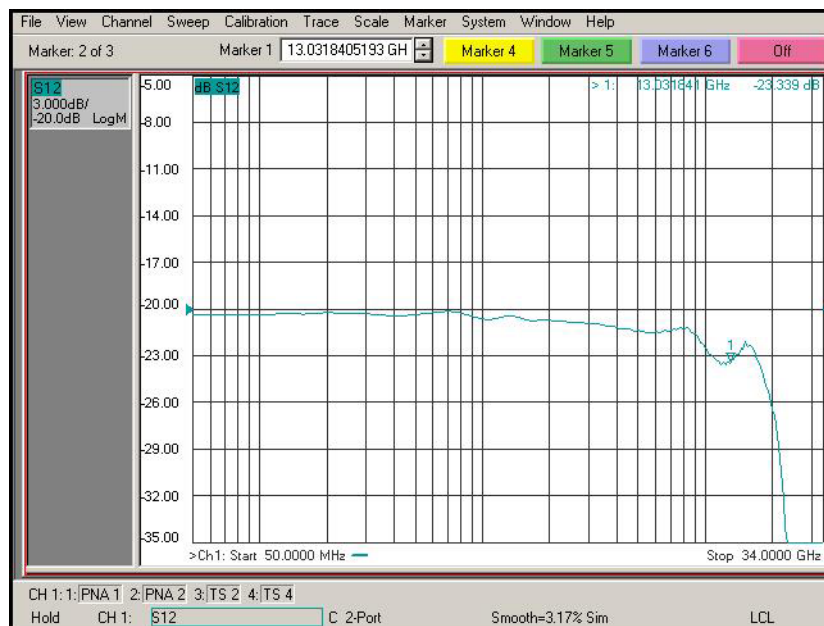

Figure 98 De-Embedded V_{out} Trace
- c Display should look like **Figure 98**. If it looks noticeably different, the probe tip wires may not be making contact under the pincher.